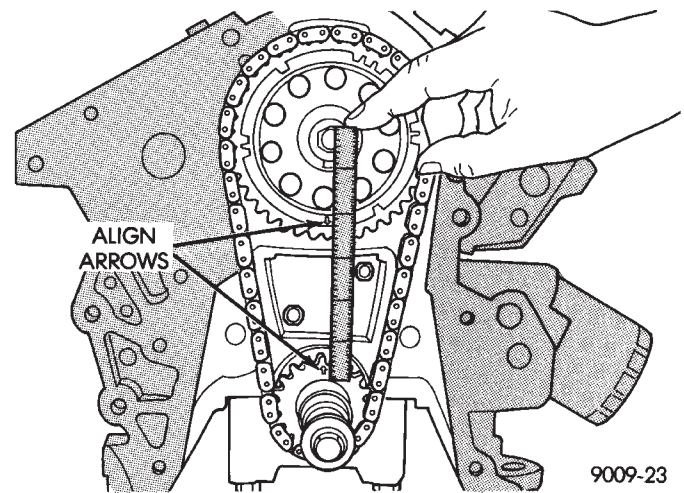

Fig. 12 Alignment of Timing Marks
- (4) Place timing chain around both sprockets.
- (5) Turn crankshaft and camshaft to line up with keyway location in crankshaft sprocket and in camshaft sprocket.
- (6) Lift sprockets and chain keep sprockets tight against the chain in position as described.
- (7) Slide both sprockets evenly over their respective shafts use a straightedge to check alignment of timing marks (Fig. 12).
- (8) Install the camshaft bolt. Tighten bolt to 54 N•m (40 ft. lbs.).
- (9) Rotate crankshaft 2 revolutions. Timing marks should line up. If timing marks do not line up, remove cam sprocket and realign.
- (10) Measure camshaft end play. End Play should measure .0127 to .304 mm (.005 to .012 inches.) .310 mm (.012 inch. Max.). If not within limits install a new thrust plate.
- (11) Each tappet reused must be installed in the same position from which it was removed. **When camshaft is replaced, all of the tappets must be replaced.**